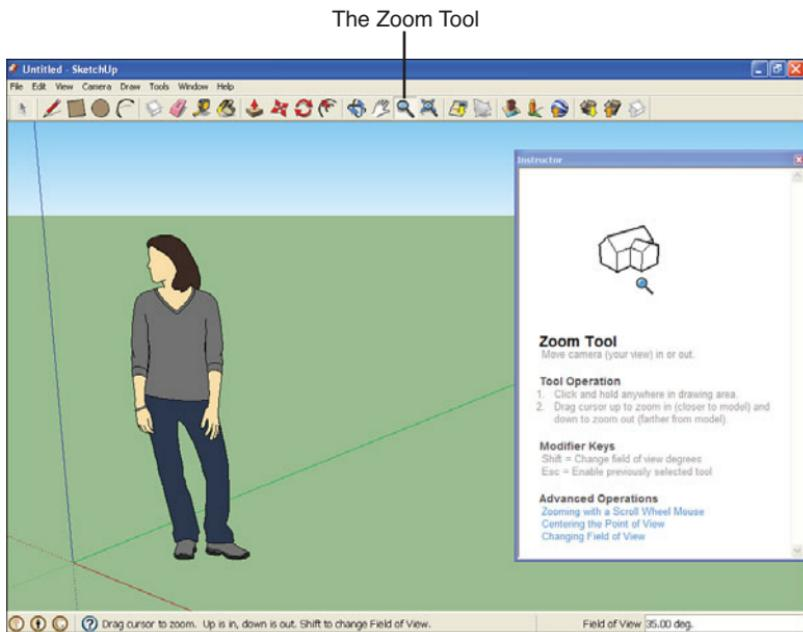

FIGURE 2.12 Using the Zoom tool.
2. Click the **Zoom** tool in the toolbar (shown in Figure 2.12).
4. Drag the mouse upward to zoom the display in and drag downward to zoom the display out. When you do, the whole display zooms in and out without changing angle or perspective, as you can see in Figure 2.12.